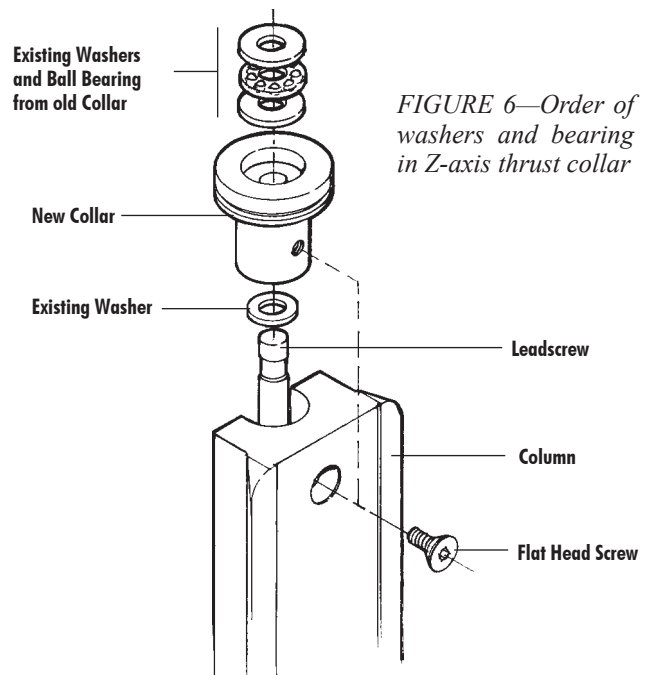

FIGURE 6—Order of washers and bearing in Z-axis thrust collar
8. Using a 1/8" hex wrench, remove the flat head screw that holds the Z-axis thrust collar to the column. Remove the collar by lifting it up and off the Z-axis leadscrew. If the spacer washer sticks to the bottom of it, remove it and reinstall it on the leadscrew shaft. Then remove the ball bearing thrust and two washers from the collar and reinstall them in the new Z-axis thrust collar in the same order. (See Figure 6.) Install the new collar on the leadscrew shaft and secure it to the bed with the flat head screw.